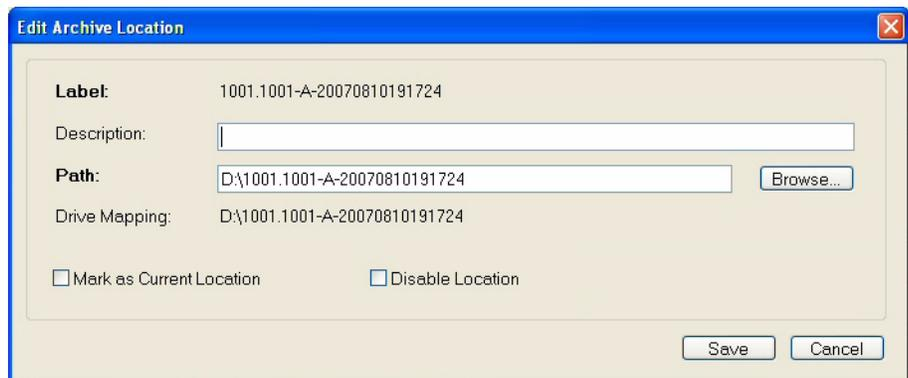

Figure 7-7 Edit Archive Location dialog
1. In the Archive Locations dialog, select the desired archive and click **Edit**. The Edit Archive Location dialog appears, as in Figure 7-7 above.